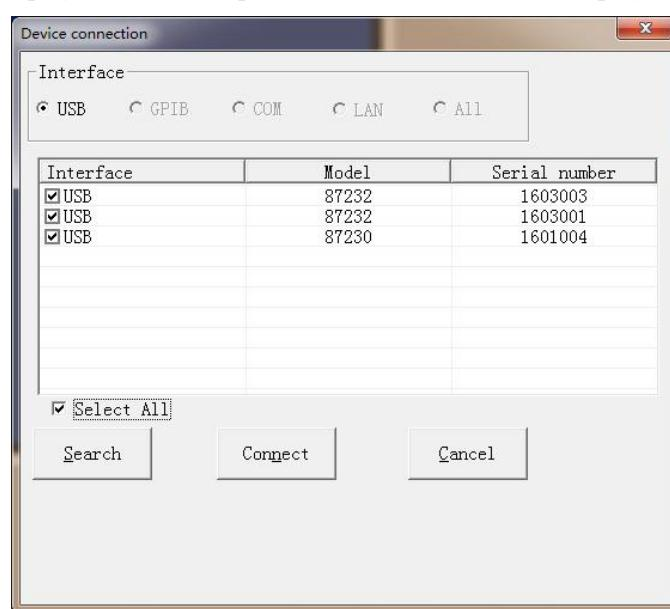

Fig. 3.5 Equipment when several USB CW power sensors are connected
**Step 1.** Open the virtual power test panel, and the system will automatically find the connected USB CW power sensors, and then select all connected power sensors, and click “Connection” button. As shown in Fig. 3.5, the system will automatically display the USB CW power sensor found first and display the measurement results;